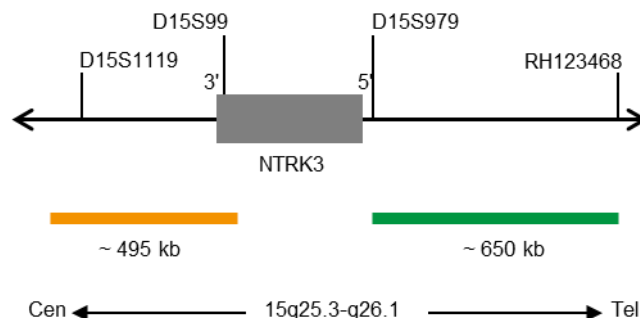

Fig. 1: SPEC NTRK3 probe map (not to scale)
- ZyGreen (excitation 503 nm/emission 528 nm) labeled polynucleotides (~10.0 ng/μl), which target sequences mapping in 15q25.3-q26.1* (chr15:88,825,346-89,475,889) distal to the NTRK3 breakpoint region (see Fig. 1).
- ZyOrange (excitation 547 nm/emission 572 nm) labeled polynucleotides (~4.5 ng/μl), which target sequences mapping in 15q25.3* (chr15:87,976,717-88,471,002) proximal to the NTRK3 breakpoint region (see Fig. 1).